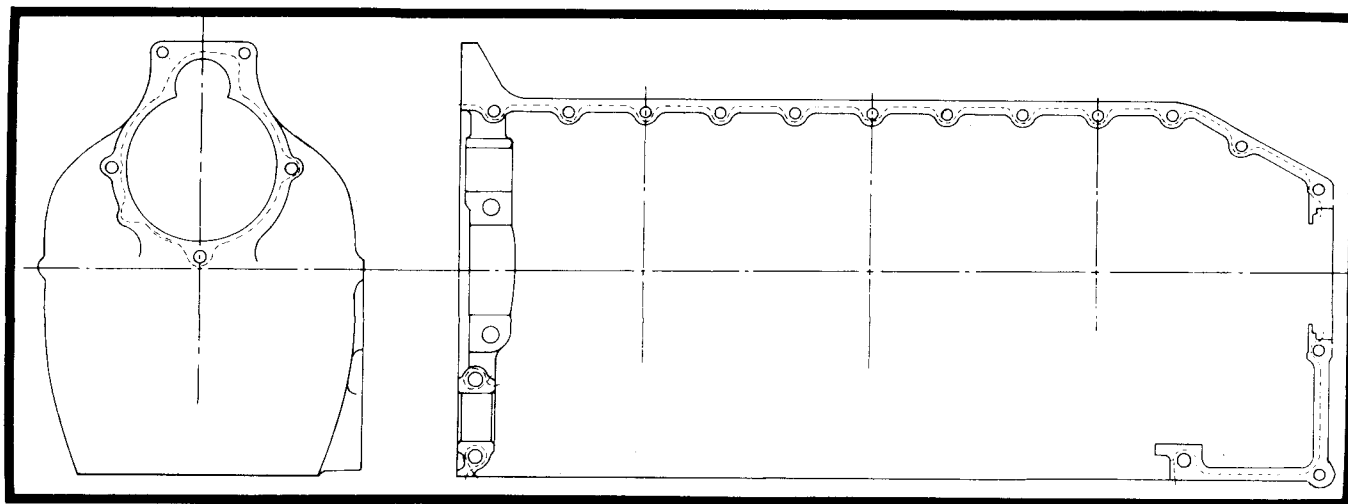

Figure 8-3. Threading Instructions.
g. Spread a thin continuous film of No. 3 Aviation Permatex on the left crankcase parting flange. Take care that the Permatex does not get on any other part. Lay lengths of No. 50 silk thread on parting flange. Thread should be on inside of bolt holes but never on the flange edge (see Figure 8-3). Stand No. 1, 3 and 5 rods upright. Carefully lower the right crankcase onto the left crankcase. Rotate the starter shaft bushing as necessary to align the hole with the dowel in the crankcase.
NOTE . . . All current production engines have a gasket between the starter adapter and the crankcase cover. Certain models built prior to 1973 used silk thread. Either method is appropriate. When using thread, apply a thin coat of No. 3 Aviation Permatex evenly on the crankcase cover starter adapter flange surface and apply No. 50 black silk thread as shown on crankcase threading diagram (Figure 8-3).